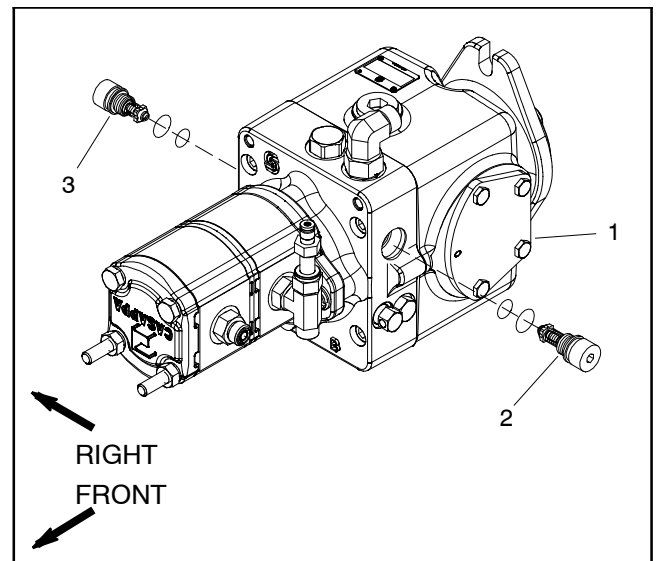

Figure 28
9. If traction pressure problem occurs in one direction only, interchange the relief valves in the piston (traction) pump (Fig. 28) to see if the problem changes to the other direction. Clean or replace valves as necessary. These cartridge type valves are factory set, and are not adjustable. If traction relief pressure is low and relief valves are in good condition, piston (traction) pump and/or wheel motors should be suspected of wear and inefficiency.